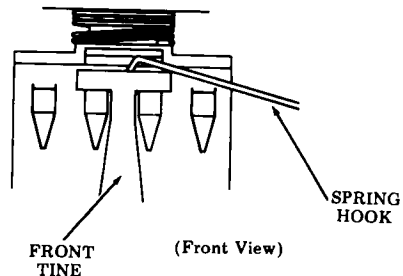

Fig. 9—Front Tine Disengagement
(3) Continue applying upward pressure to the < keytop and disengage the front tine from housing using a spring hook. Remove keytop with housing from channel (Fig. 9).